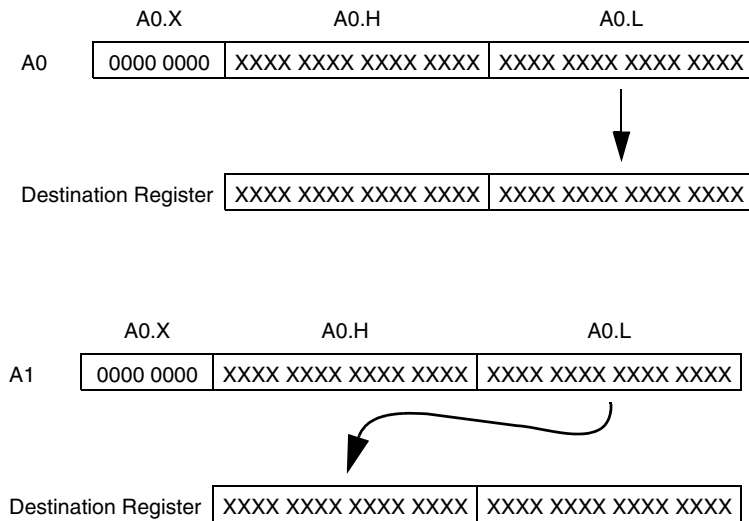

Figure 9-2. Result to Destination Register ((IS) Option)
The integer version of this instruction (the (IS) option) transfers the Accumulator result to the destination register according to the diagrams, shown in Figure 9-2. Accumulator A0.L contents transfer to the lower half of the destination D-register. A1.L contents transfer to the upper half of the destination D-register.